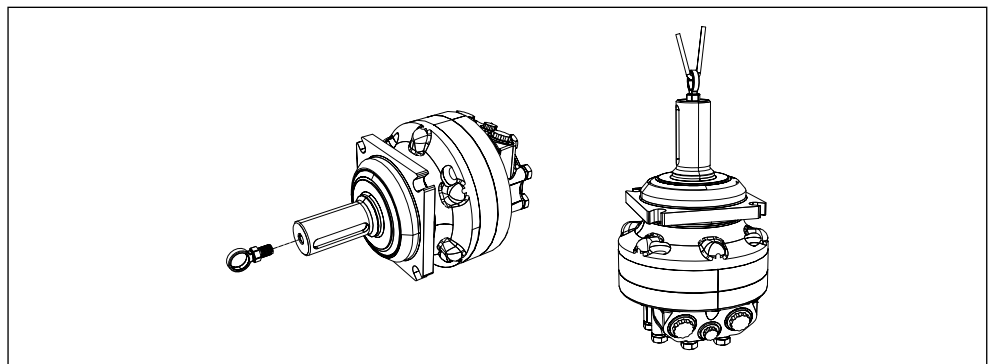

Fig. 14: Fixing the eye bolt
- ▶ The eye bolt should be screwed fully into the female thread in the end of the drive shaft, the motor may then be hoisted as indicated in Fig. 14 below.